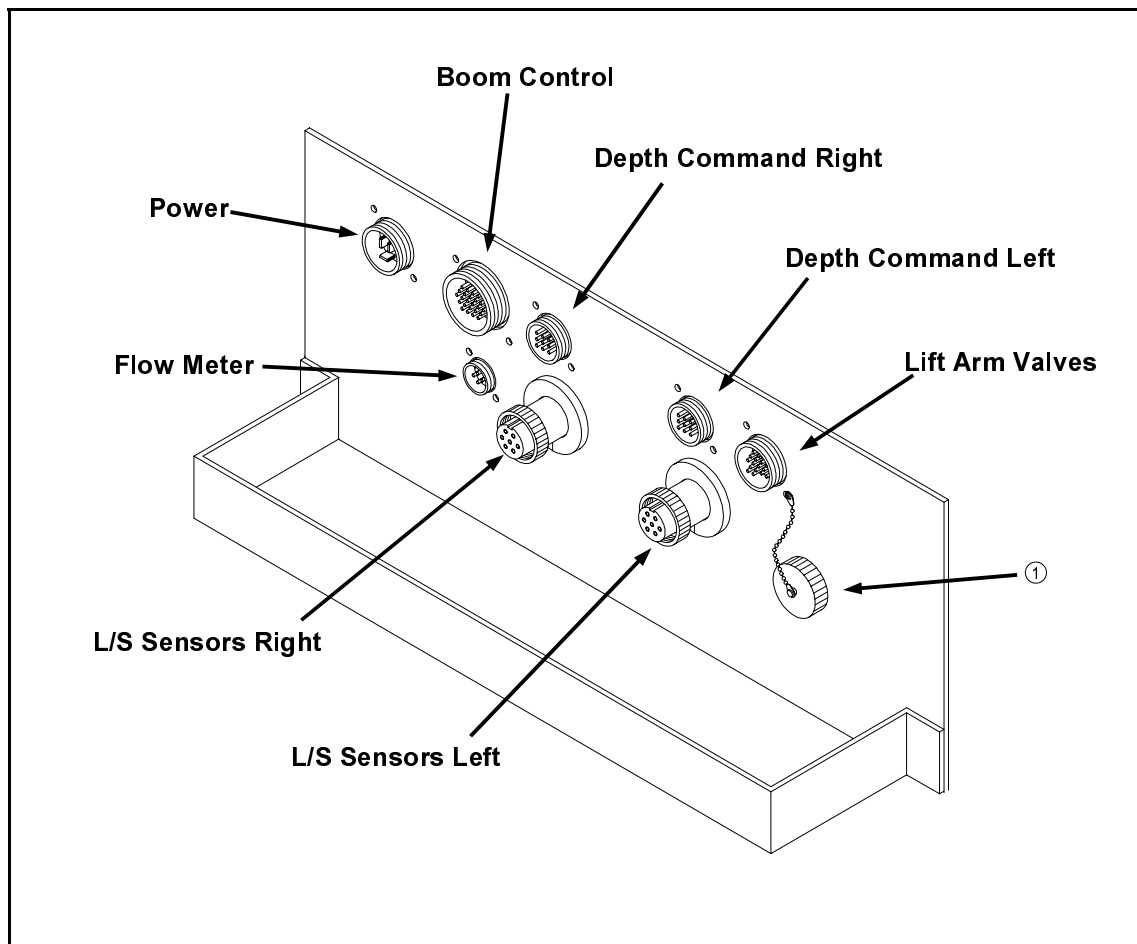

FIG 2.4
Attach Tasselrol®, Depth Command and other wire harnesses to the appropriate “jumper” ports located in front of the cab (fig. 2.4). Refer to also to STS 12 SPRAYER/DETASSELER Parts Manual
All “jumper” ports not used should be “capped” (fig. 2.4, items 1) to protect connection points.